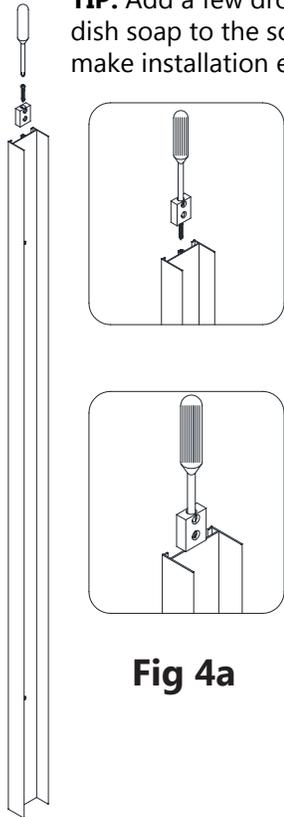

Fig 4a
4. Attach the **Upper guide rail connectors (#07)** to the top of both **Wall Profiles (#01)** using the **ST4.2 x 30 Truss head screws(#13)**. (Fig 4a)
See Fig 4a and 4b for details